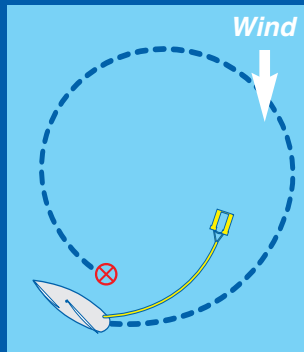

Fig. 12
3. Continue turning downwind without trimming sails. When the boat is downwind of the COB, continue the circle to draw the Lifesling3 line to the COB. If the COB does not get the line or the sling on the first pass, continue circling. (Fig. 12)